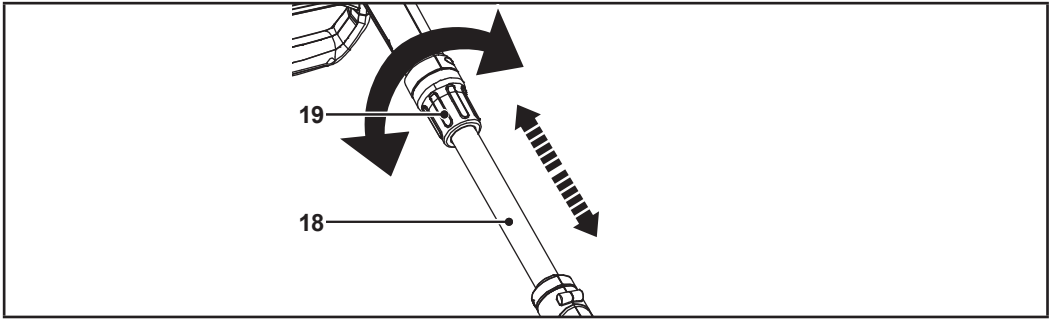

Fig. 5
1. Loosen the extension tube lock (19) (Fig. 5).
2. Adjust the extension tube (18) (Fig. 5).
3. Tighten the extension tube lock (19) (Fig. 5).
4. Make sure that the extension tube (18) is locked.